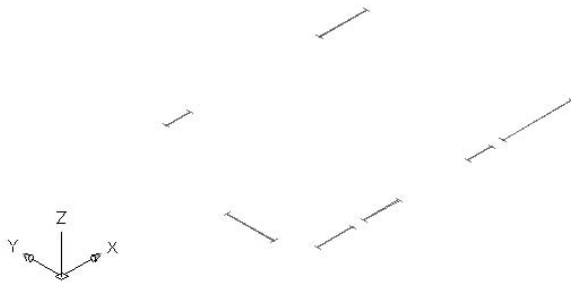

FIGURE A.7: The cabin drawing in 3D with only the Windows layer visible
1. Create a new layer called 3D-Windows and make it current. Let it take on the default color. Before you leave the Layer Properties Manager dialog box, turn off the Walls layer, turn on the Windows layer, and freeze the 3D-Walls layer. Only window blocks should be visible (see Figure A.7). If the screen doesn't display what is illustrated in the book or what you expect, choose View > Regen.